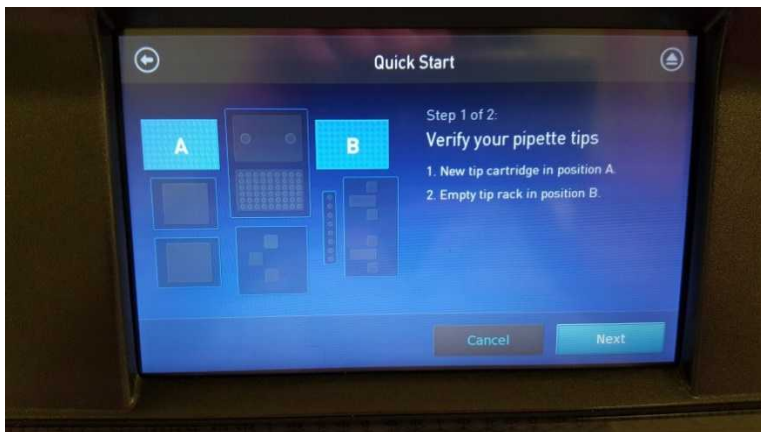

Figure 12. Screenshot of the “Next” button
3. Press “Next” to start the Ion Chef’s tip verification, as shown in figure 12.